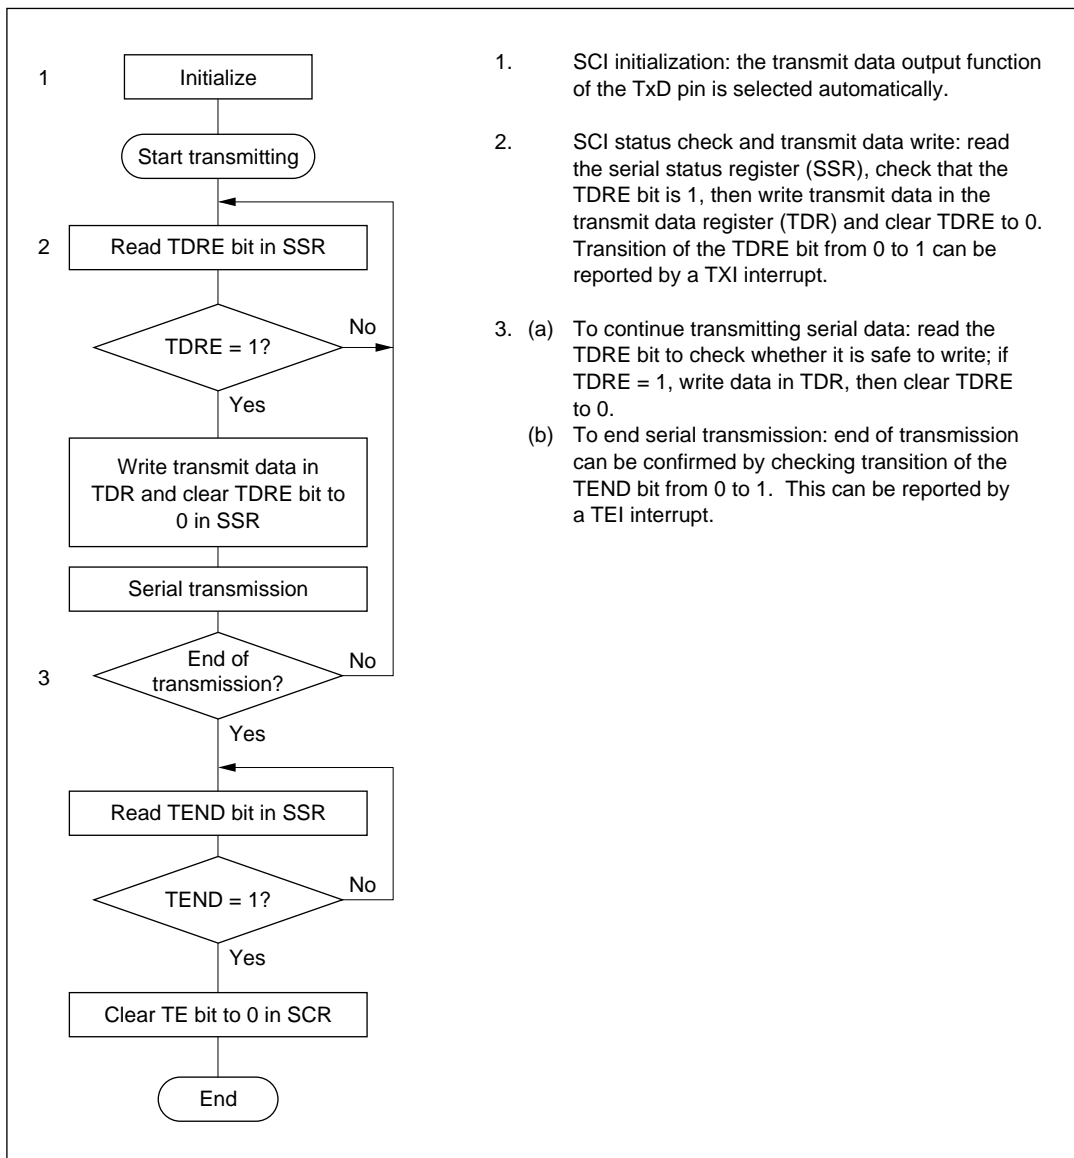

Figure 11-13 Sample Flowchart for Serial Transmitting
- **Transmitting Serial Data:** Follow the procedure in figure 11-13 for transmitting serial data.